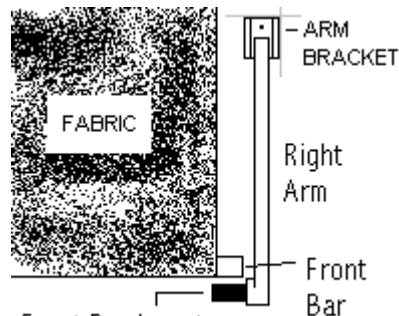

Figure 6: Front Bar Insert
15. Slide the Arm Bracket Cover over the Arm Bracket and orient the arm on the wall so the Rubber Front Bar Insert is as shown in Figure 6. Ensure Bracket is plumb and insert the upper pan-head screw. Repeat for the other side of the awning.